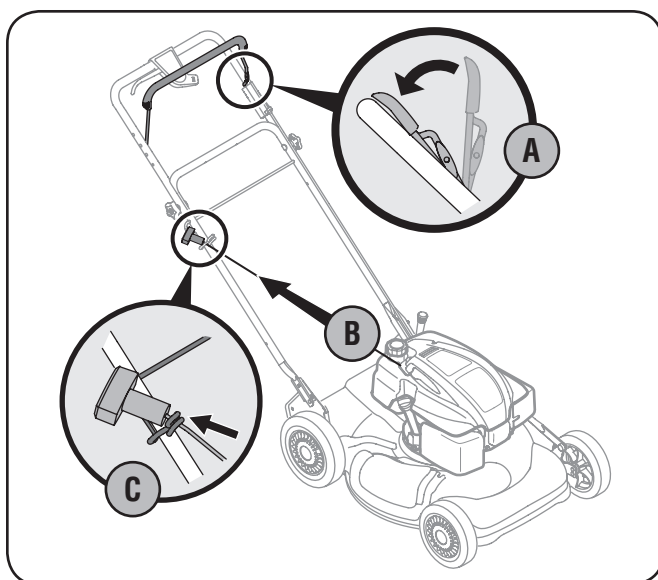

Figure 3-3
3. The rope guide, which is connected to the support rod, is located on the right side of the lower handle. See Fig. 3-3 on the next page.